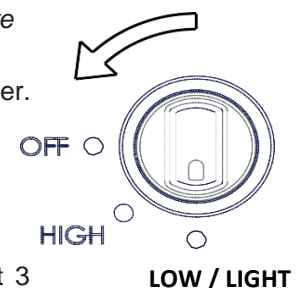

Figure 2
Situated at top of control, control knob is set correctly when appropriate symbol is alongside position indicator. (See Figure 2)
- Push gas control in and turn it fully anti-clockwise to “low/light” position (*Refer to Figure 2*).
When work is completed, switch fryer off (*See Figure 2*).